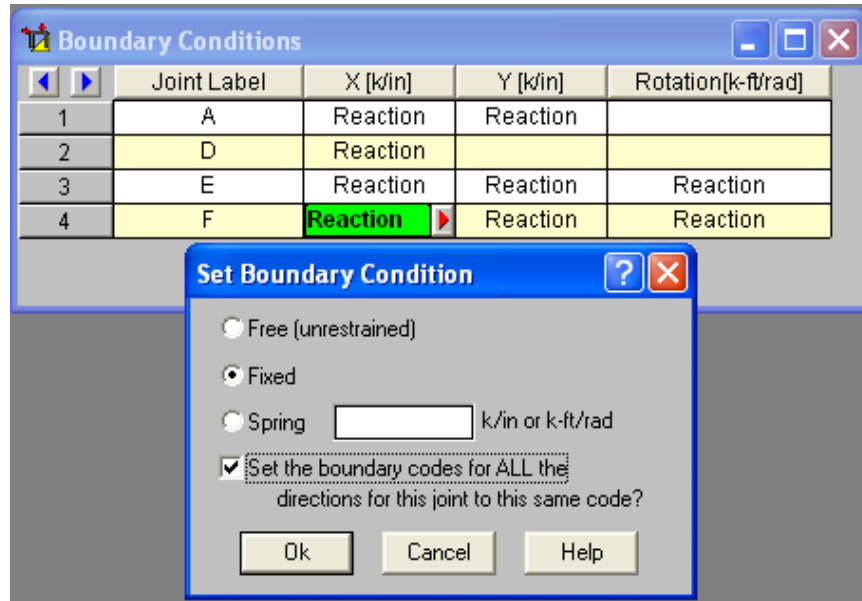

Figure 19
- (3) Follow Step 8 to provide information for the **Boundary Conditions**. Since joints E and F are fix-ended, set the boundary codes for all the directions (X, Y, and rotation) as **Fixed** (see Figure 19).